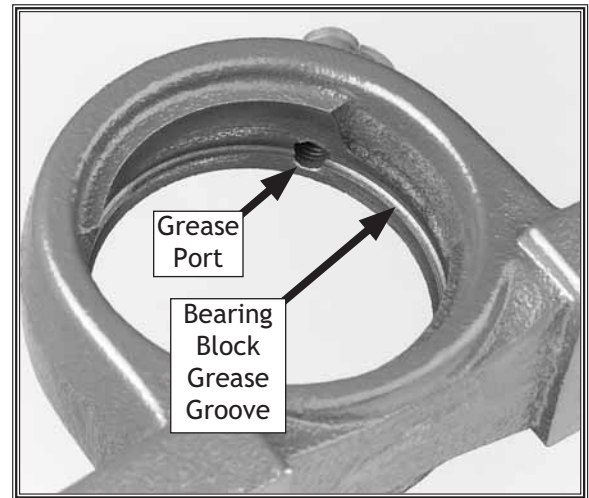

Figure 58. Bearing-block grease groove and grease port.
7. Remove any metal or abrasives trapped in the bearing grease groove and grease port, or contaminants will be pumped into the new bearing when you lubricate it, causing bearing failure (**Figure 58**).
9. Insert the new bearing into the bearing-block so when the bearing block is installed in the sander, the grease fitting is facing forward and the set screws and hub are on the right-side of the bearing housing (see **Figures 58** and **59**).